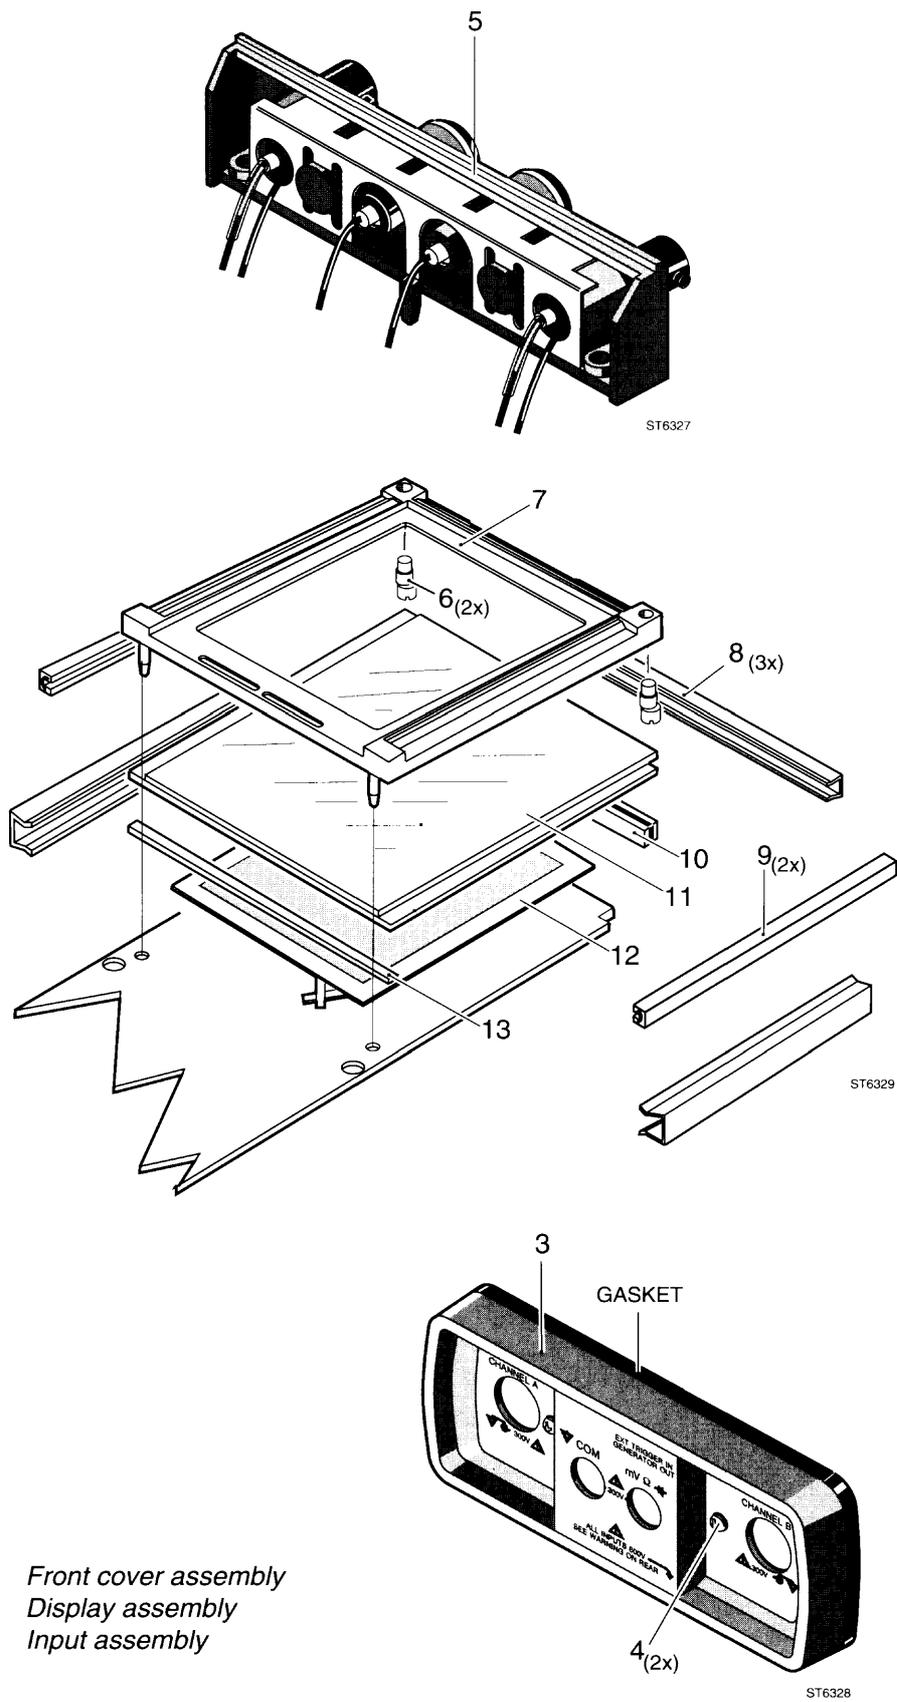

Figure 9.2 Front cover assembly
*Table 9.2 Front cover assembly (See figure 9.2)